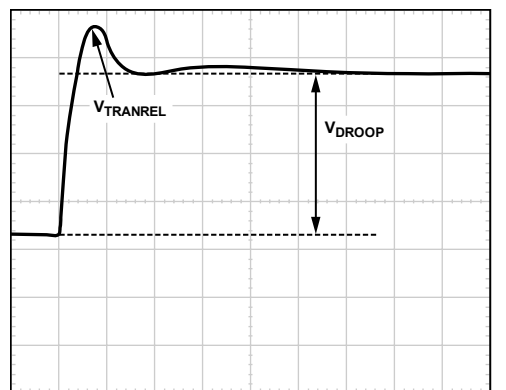

Figure 17. Transient Setting Waveform
3. For load release (see Figure 17), if $V_{TRANREL}$ is larger than the allowed overshoot, there is not enough output capacitance. Either increase the capacitance directly or decrease the inductor values. If the inductors are changed, however, it will be necessary to redesign the circuit using the information from the spreadsheet and to repeat all tuning guide procedures.